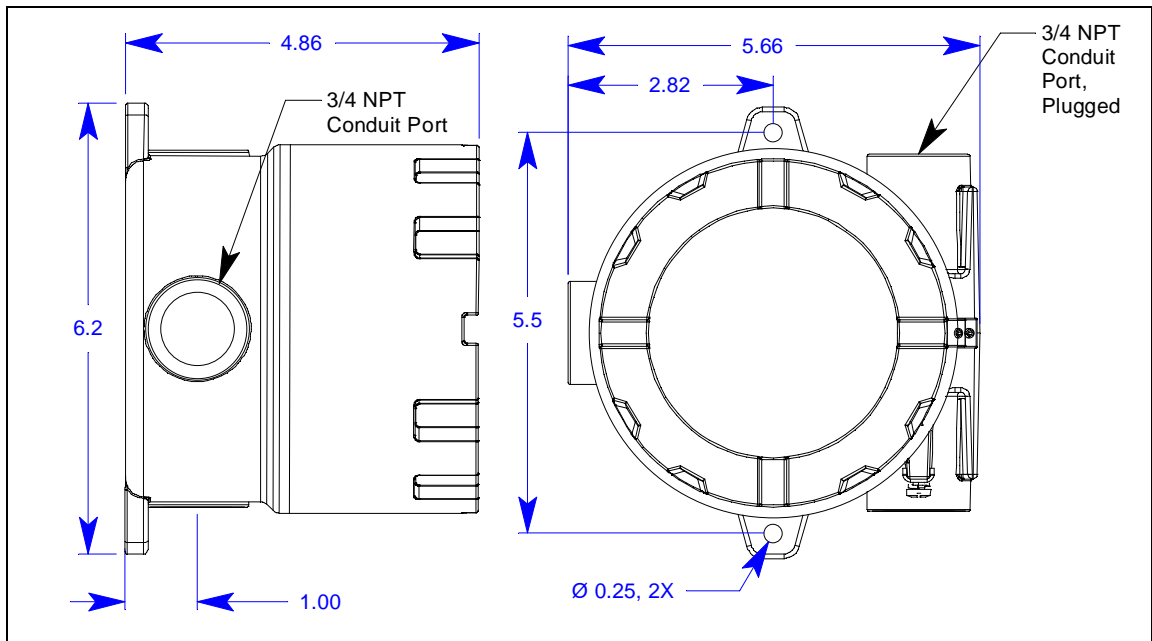
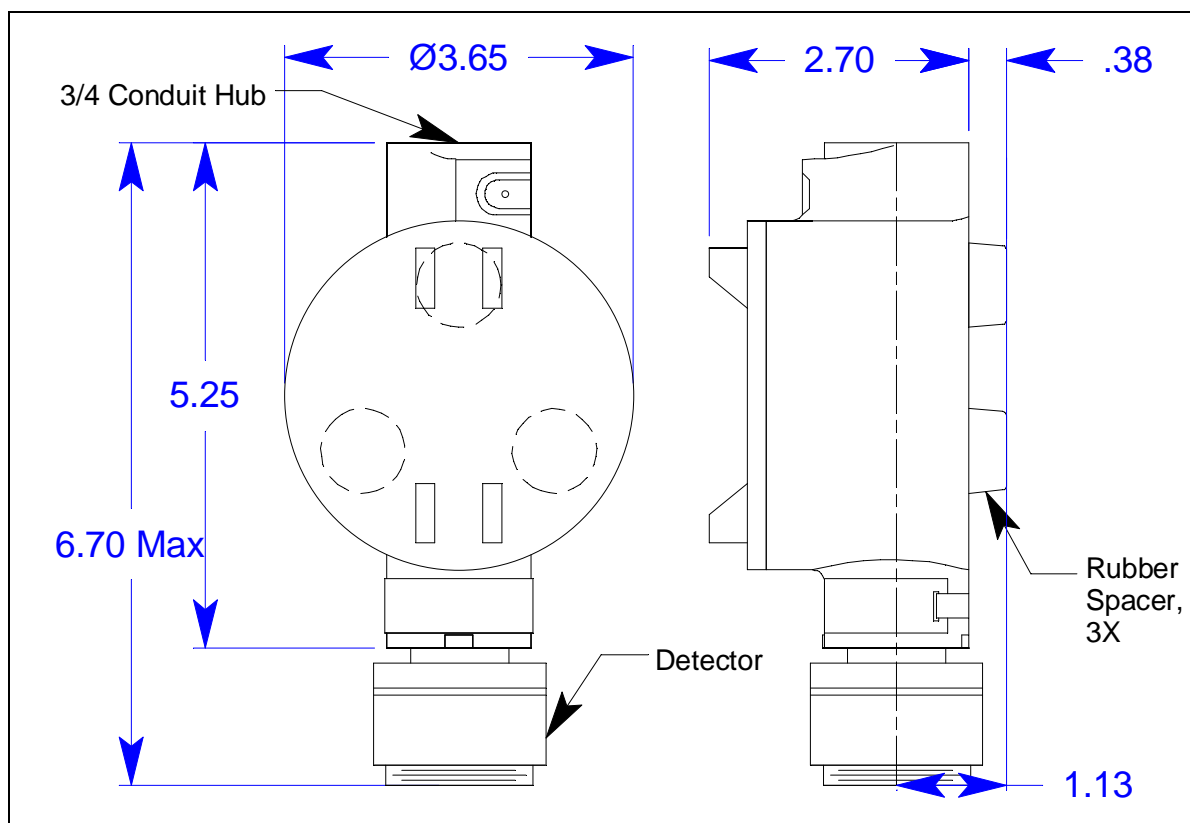

Figure 6: M2A-XL Junction Box Dimensions
Figure 7: Detector Junction Box Dimensions
2. Use #10 screws through the M2A-XL junction box's two mounting holes to secure the junction box to a vertical surface. Figure 6 shows the outline and mounting dimensions the M2A-XL junction box. Figure 7 shows the outline and mounting dimensions for the detector junction box. Mount the detector junction box with the detector facing down as shown in Figure 7.